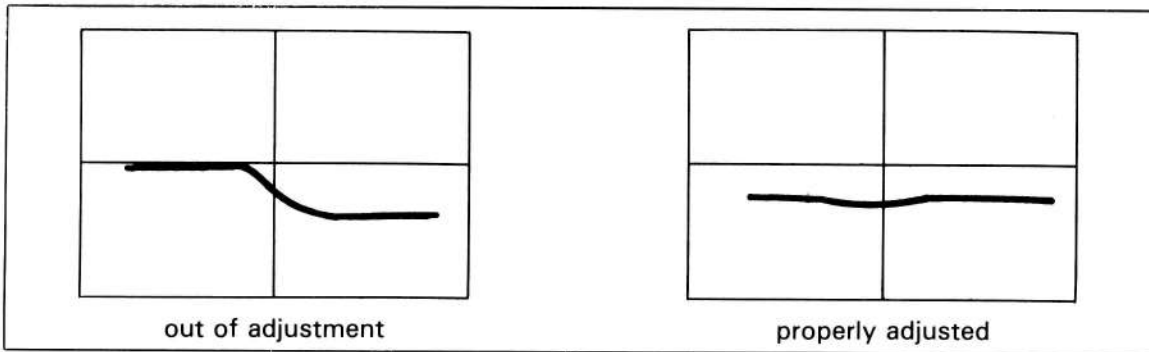

Figure 7-3. Symmetry Adjustment
Figures 7-3 and 7-4 will be referred to throughout the remaining IF Adjustment procedures.
d. Adjust A13L7 so that the trace approximates a straight, horizontal line. (See Figure 7-3.)
c. Adjust A13L6 so that the trace approximates a straight, horizontal line. (See Figure 7-3.)
c. Adjust A13L5 so that the trace approximates a straight, horizontal line. (See Figure 7-3.)
c. Adjust A13L4 so that the trace approximates a straight, horizontal line. (See Figure 7-3.)
- f. Adjust A12L4 so that the trace approximates a straight, horizontal line. (Figure 7-3.)